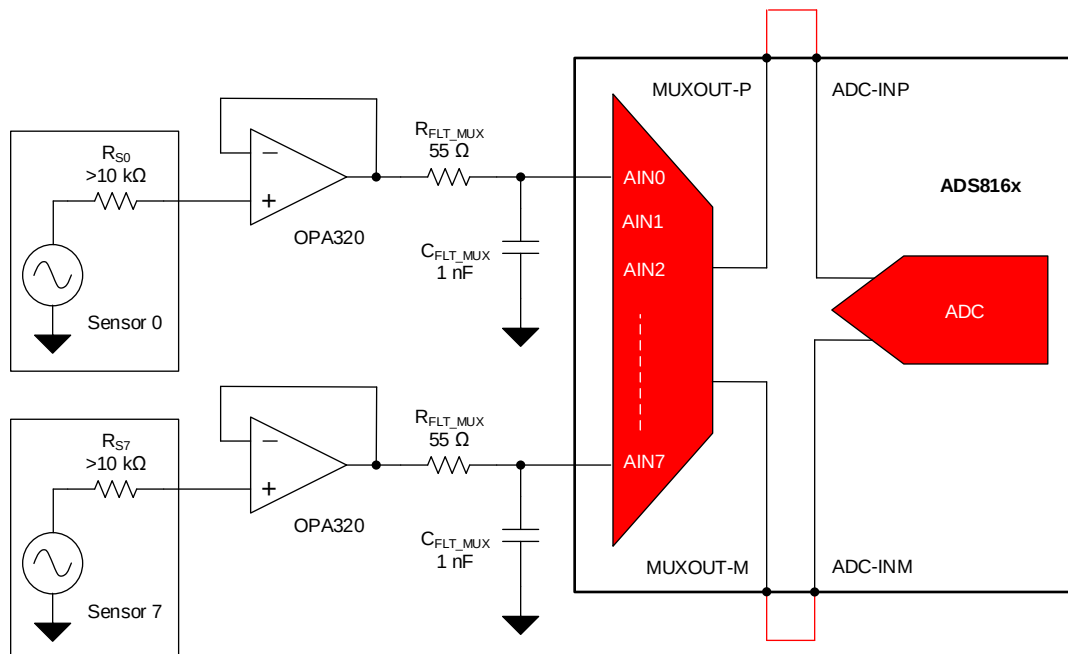

图 100. High Output Impedance Sensor Interface
In some applications, such as temperature sensing, the sensor output impedance can be greater than 10 kΩ. When scanning the multiplexer channels at high throughput, the relatively higher driving impedance results in a settling error. In such cases, 图 100 shows that the multiplexer inputs can be driven using an amplifier. The multiplexer outputs can be connected to the ADC inputs directly. For best distortion performance, an amplifier can be used between the multiplexer and the ADC as described in the Selecting an ADC Input Buffer section.
- Select an input amplifier for rapid settling when the multiplexer switches channels. This selection is covered in the Multiplexer Input Connection section. The OPA320 buffer and associated RC filter illustrated in 图 100 meet these requirements.